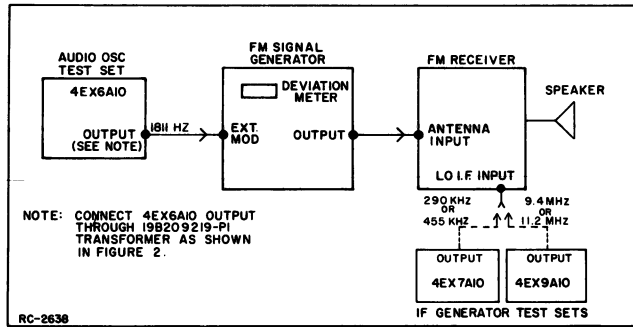

Figure 3 - Equipment Connections
1. Make equipment connections as illustrated in Figure 3.